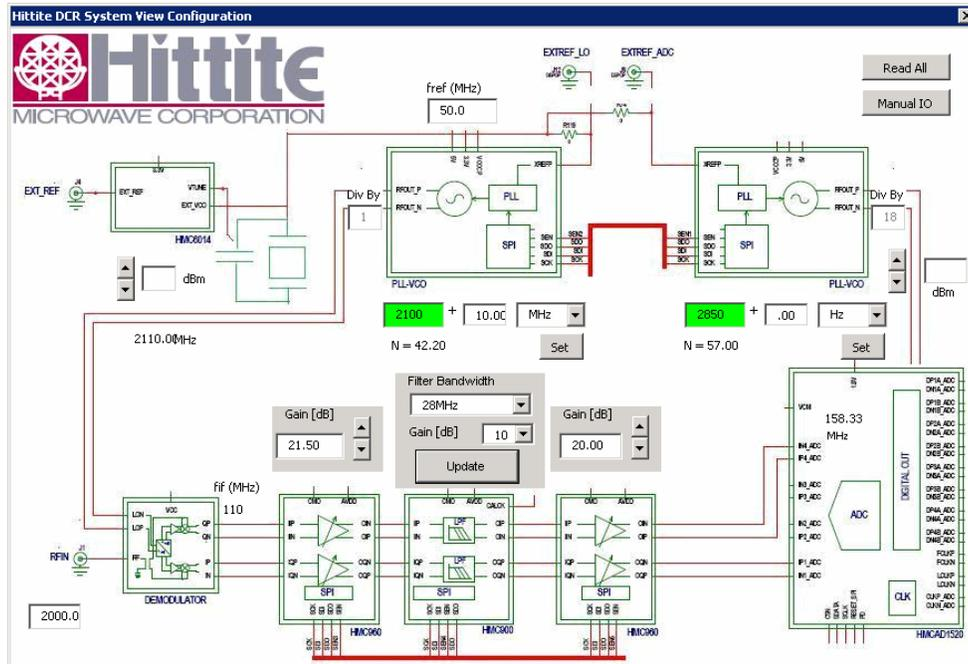
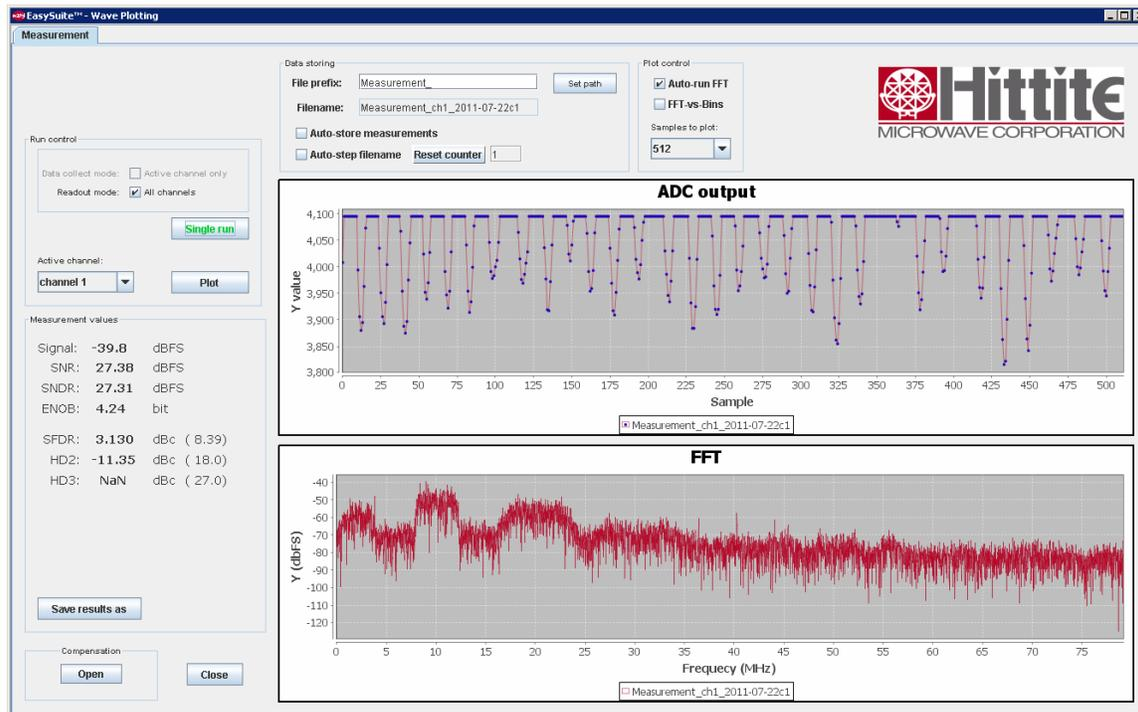

Figure 28.DCR System View Configuration dialog showing addition of further 5 dB of gain in the second VGA
Figure 29.EasySuit view showing the effects of too much gain and saturation
18. Adding further 5 dB of gain in the second VGA (a total of 20) as shown in Figure 28, results in DCR saturation. As can be observed in Figure 29, both time domain and frequency domain graphs show that the ADC is saturated. The time domain plot shows ADC reaching its upper limit (4096). Signal distortion is clearly observable in the frequency domain plot.